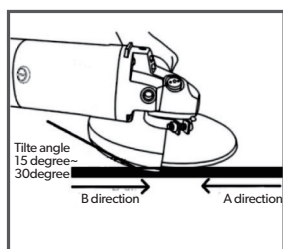

Fig 7
2. Generally speaking, please keep the grinding and cutting part of the wheel and disc in the scope of 15 to 30 degree with the surface of processing object. (Fig 7)